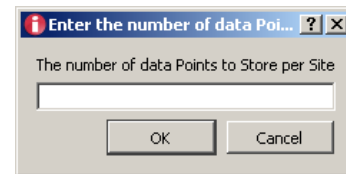

FIGURE 8. NUMBER OF POINTS PER CHANNEL INPUT BOX
- Upon completion of the save dialog box, an input box (Figure 8) asks for the number of points to be saved per channel.